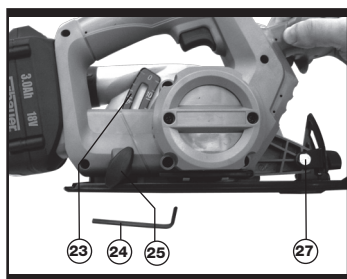

Fig 3
1. ADJUST THE CUTTING DEPTH (See Fig.3)